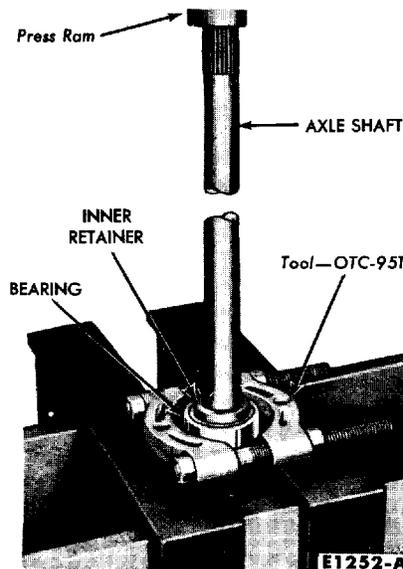

FIG. 4—Wheel Bearing Removal
5. Remove the bearing from the axle shaft with the tool shown in Fig. 4.